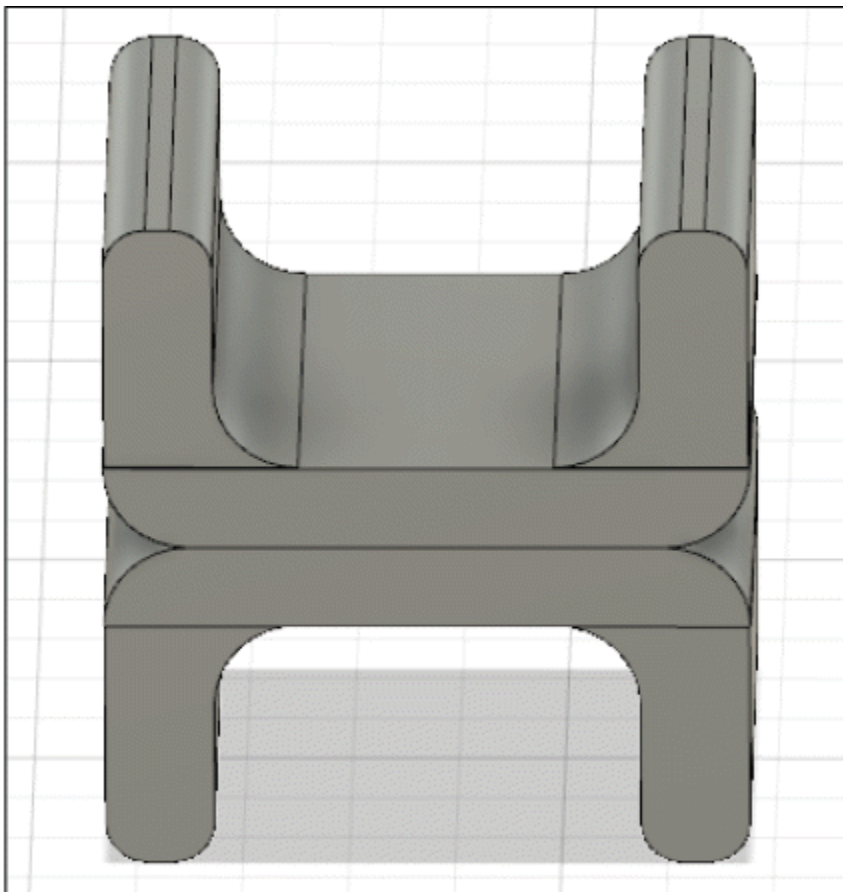

Figure-113. Solid model after applying mirror tool
- Click **OK** button of **MIRROR** dialog box to finish the process of creating mirror copy; refer to Figure-113.